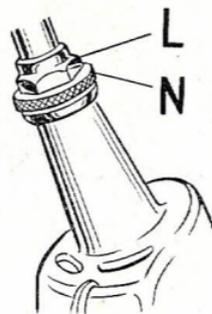

FIG. 14.
The Steering Head:—Check the head bearings regularly for slackness. The handlebars should rotate smoothly and freely, but without up and down play. If adjustment is necessary, slacken the locknut (L) Fig. 14, and tighten the ring nut (N), until the above condition is obtained, afterwards retightening the locknut. It is essential that the ring nut is not over-tightened otherwise the steering will become stiff and the ballraces damaged.